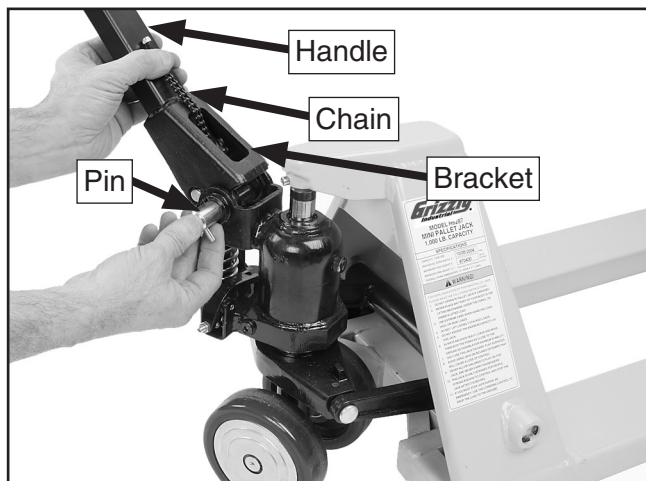

Figure 3. Installing handle, Model H6287.
3. While holding the handle vertically and grasping the chain, insert the handle into the bracket, align the mounting holes, then insert the alignment pin, as shown in **Figure 3**.